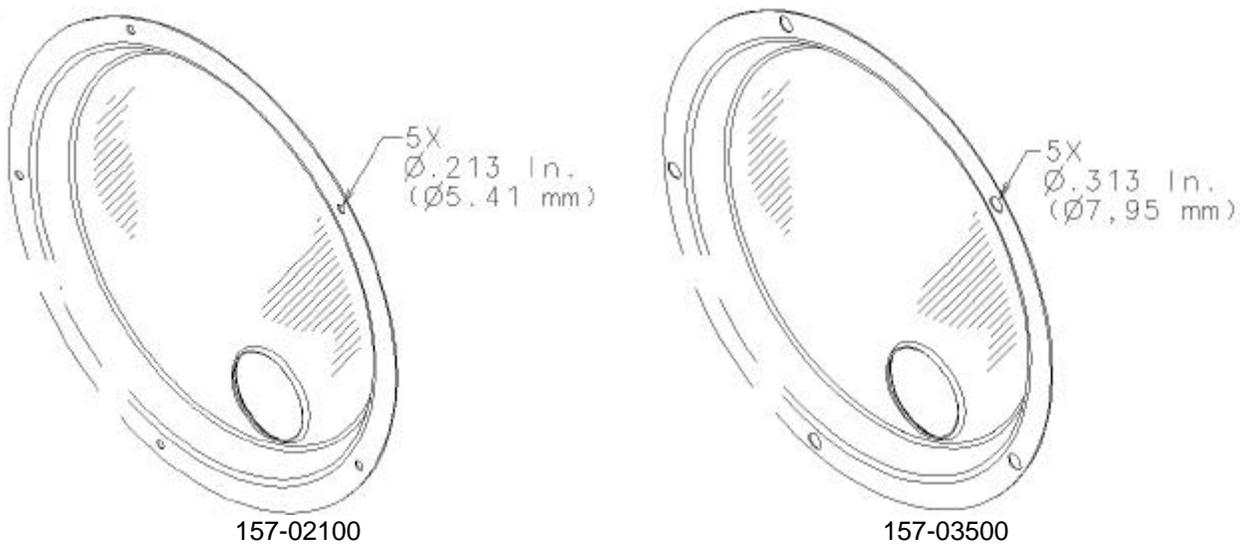
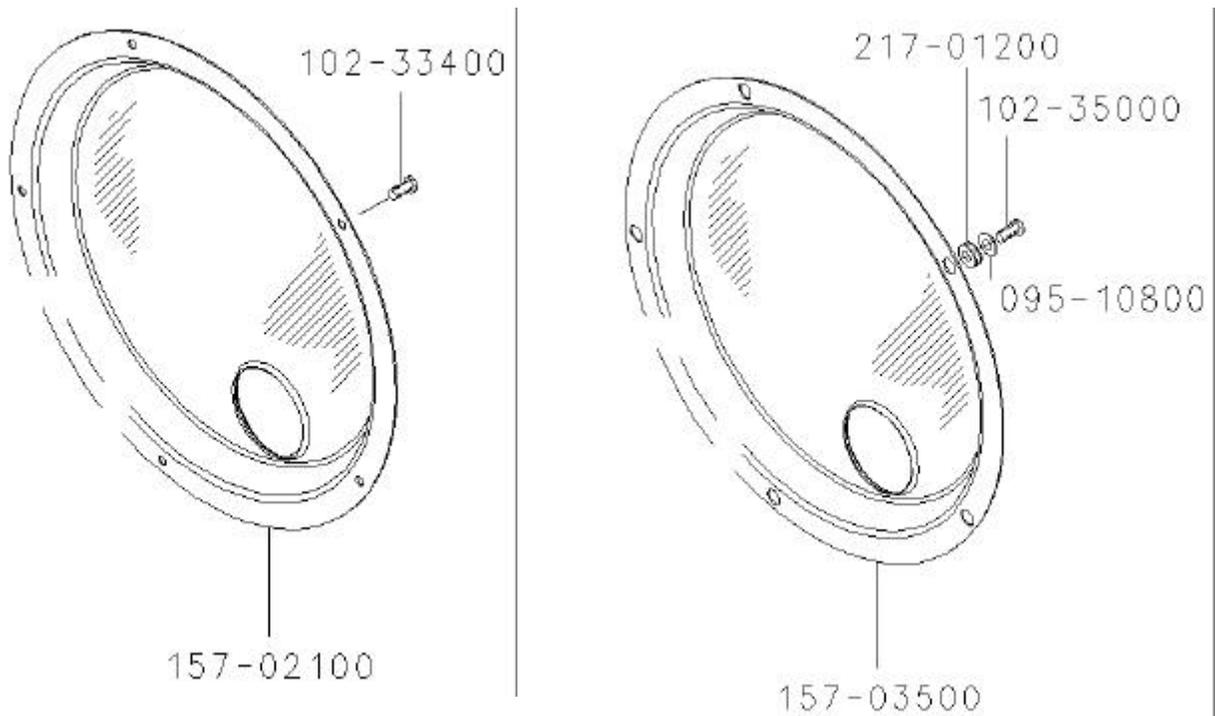

Figure 1
Figure 2 – Before (left) and After (right)
- 3) All 40-424 wheels verified as being equipped with the P/N 157-03500 or P/N 157-02100 with $\varnothing.313$ mounting holes and fairing mounting hardware per kit SB7075-1 may be returned to service (ref. Figure 2 (after)).
- 4) For aircraft that are identified as being equipped with the 40-424 Main Wheel in the pre-SB7075 configuration (ref. Figure 2 (before)), remove the five fasteners which attach the fairing to the outboard wheel half, and measure wheel assembly fairing attachment fastener through holes (ref. Figure 1).
- 6) Using penetrant per Table 1 herein, examine fairing P/N 157-02100 for cracks. Fairings (P/N 157-02100) that are free from cracks may be reworked into the P/N 157-03500 configuration by enlarging the five mounting holes to $\varnothing.313 +.005/-.002$ inches (ref. Figure 1). Replace all fairings that show evidence of cracks with new P/N 157-03500 fairings; contact Pilatus Business Aircraft, Broomfield, Colorado, or Parker Hannifin Aircraft Wheel & Brake Service Center for warranty replacement information.
- 7) Install Five Grommets (P/N 217-01200) Into Wheel Cover (P/N 157-03500 or P/N 157-02100 with $\varnothing.313$ mounting holes). Apply MIL-T-83483 anti-seize to end of fasteners and threads of fasteners (102-35000). Install one washer (095-10800) onto each fastener (102-35000) (ref. Figure 2). **Caution: The fairing attachment fastener length is designed such that the fastener will bottom in the wheel before fully compressing the grommet.** Torque fastener (102-35000) to 20-25 In.-Lbs.